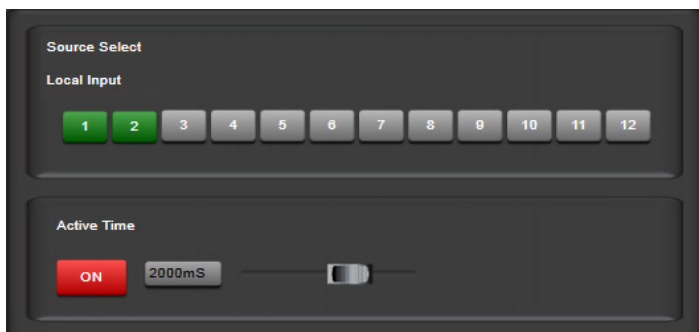

Fig. 26 View "Auto Mixer"
7.11 View "Auto Mixer" (fig. 26)
The function "Auto Mixer" is an additional option. Once you speak into one of the microphones involved, this microphone is temporarily the master microphone. The levels of all other microphones will be attenuated. The following settings can be made (see fig. 26):